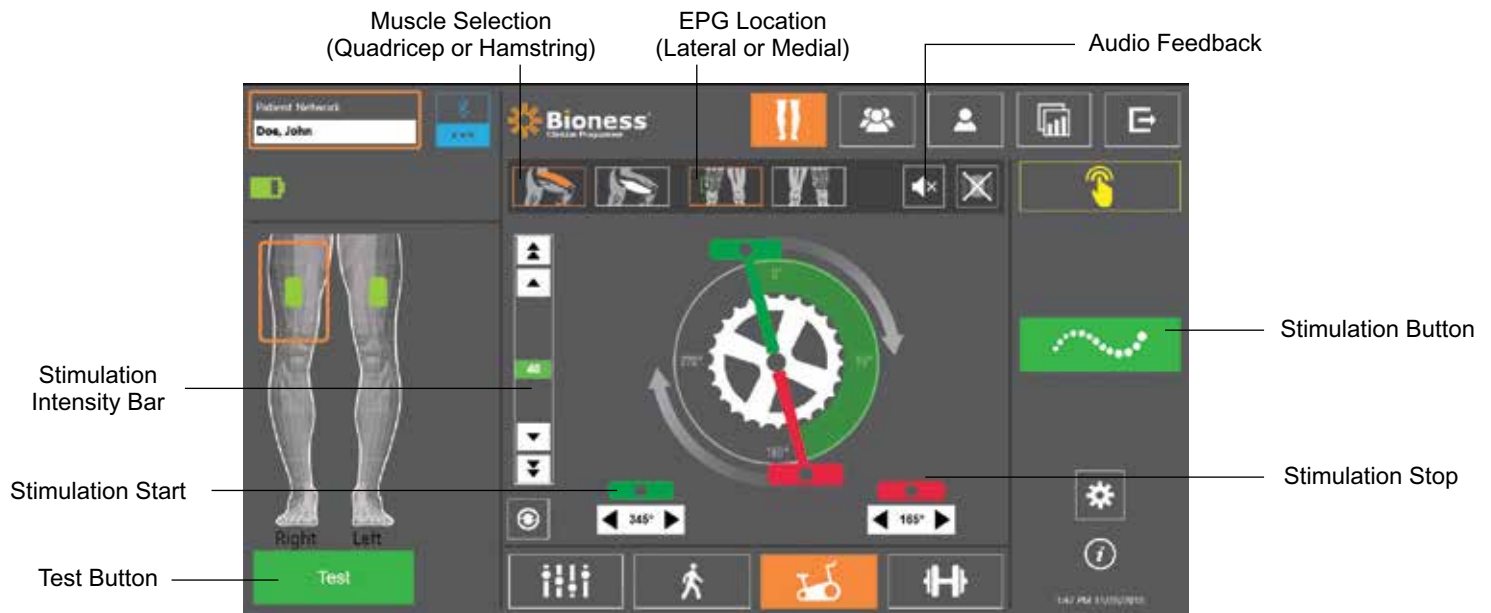

Figure 9-8: Programming Stimulation, Cycle Training Settings Screen
- Press the Cycle Training Screen icon . See Figure 9-8.
- For the Thigh Stand-Alone Cuff, select the appropriate muscle group (quadricep or hamstring) by pressing the appropriate Muscle Selection button . The selection will be highlighted in orange. See Figure 9-8.
- For the Thigh Stand-Alone Cuff, select the physical location (lateral or medial) of the EPG by pressing the EPG Location icon . The selection will be boxed in green. See Figure 9-8.
- For new patients, make sure the stimulation intensity is set to 0 using the arrows on the Stimulation Intensity Bar.. See Figure 9-8.
- Press the Test button to save setting and turn on stimulation. Gradually increase the stimulation intensity to the desired level using the arrows on the Stimulation Intensity Bar. See Figure 9-8.
15. Fine-tune the Stimulation Intensity while the patient is cycling. See Figure 9-8.
**Note:** Enabling the Audio Feedback indicator may assist in optimizing the Stimulation Start and Stop settings. See Figure 9-8. Palpating the muscle may assist in determining when muscle contraction occurs.